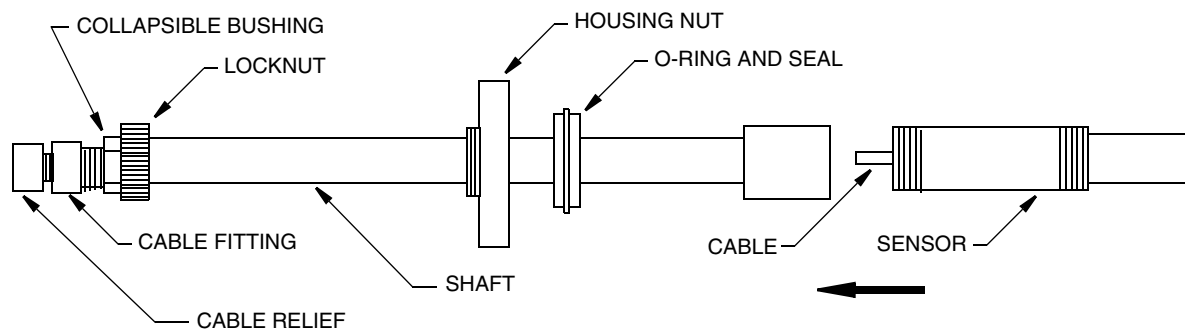

Figure 13. Insertion Shaft Assembly
2. Feed the sensor cable through the shaft assembly. Screw the shaft assembly into the end of the sensor (finger tight). See Figure 13. Do **not** overtighten.